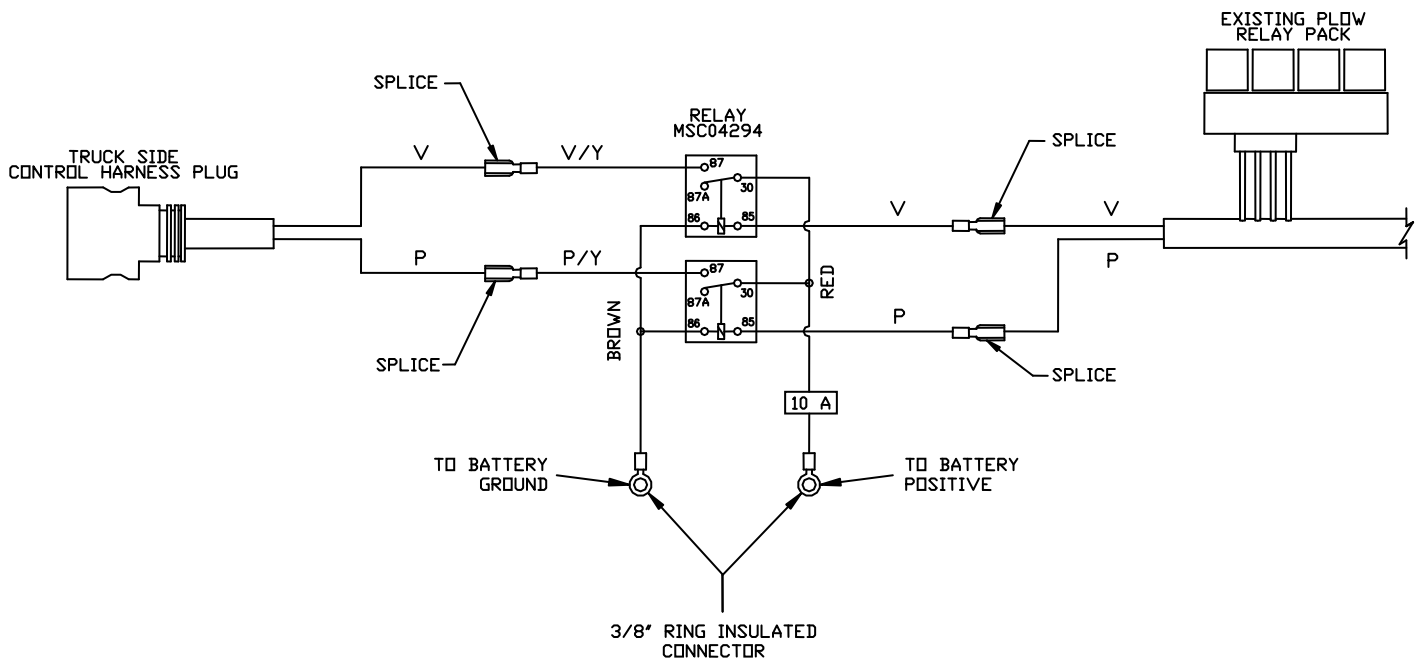

Figure 4. Relay Kit Installation
8. Use provided relay kit to supply power to the turn signals directly from the battery. (See Figure 4)